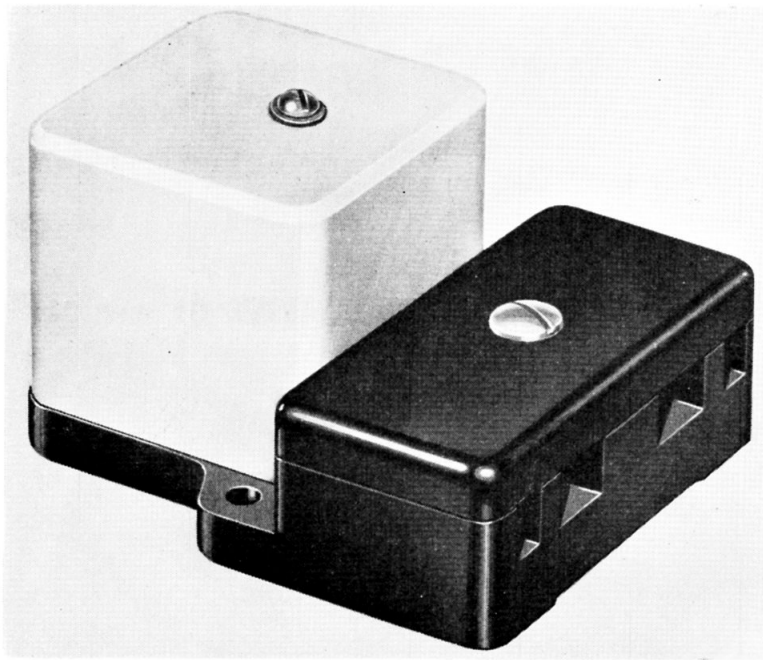
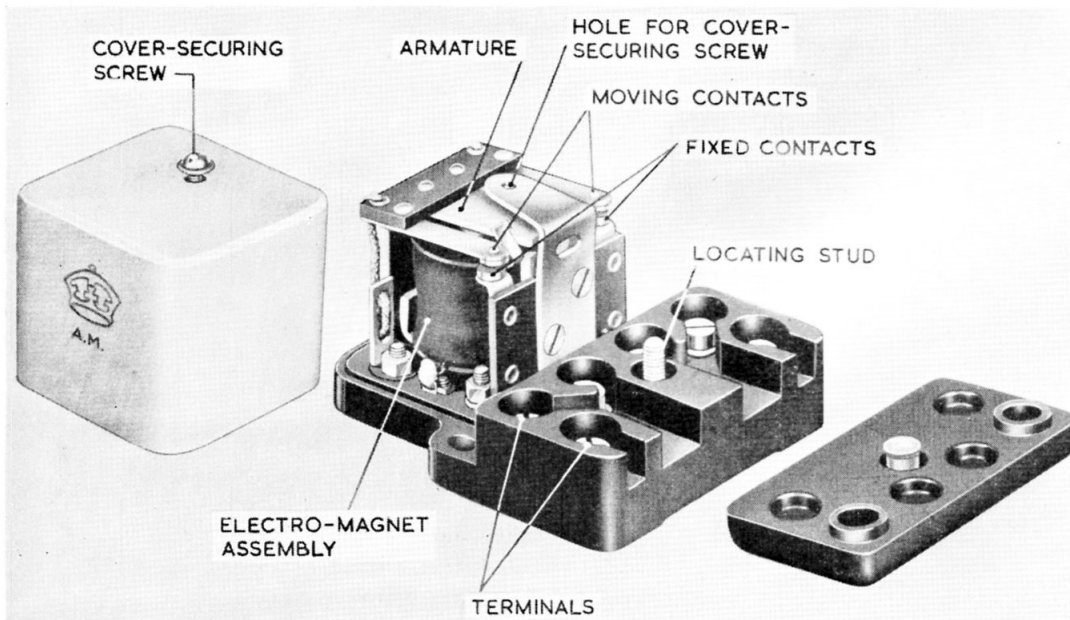

Fig. 1. Magnetic relay switch, Type Q1
Fig. 2. Type Q1, with covers removed
2. The relay (fig. 1) incorporates an electro-magnet operating two pairs of contacts, which in the normal position are open. As can be seen in fig. 2, the two moving contacts are secured to an insulating bar fixed to the armature; when the electro-magnet is energized, the armature is attracted to the core,